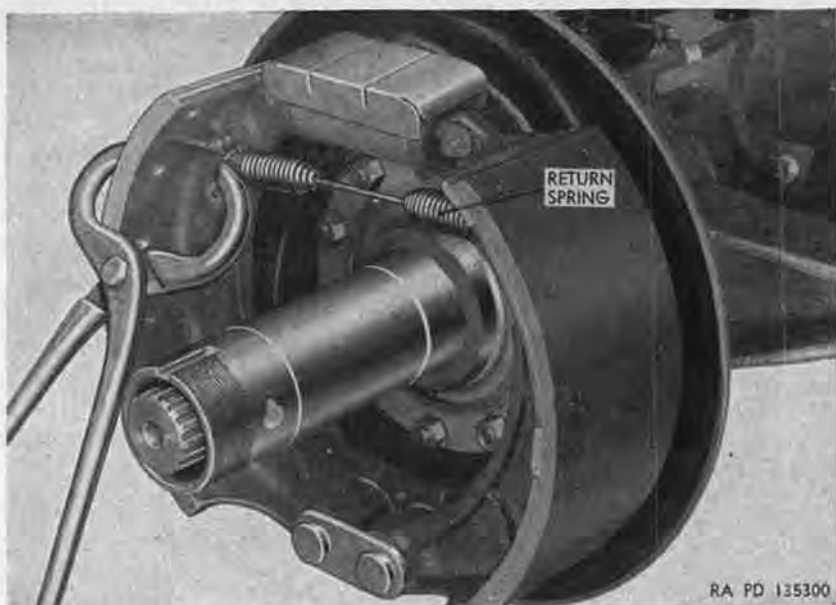

Figure 245. Removing brake shoe return spring.
- (4) Unhook return spring (fig. 245) from one of brake shoes.
- (5) Remove two wheel cylinder cap screws (fig. 240) and lockwashers from back side of backing plate assembly, and remove wheel cylinder (fig. 245) with cover from front side of backing plate.
- (1) Position wheel cylinder (fig. 245) with cover on front side of backing plate assembly, install two wheel cylinder cap screws (fig. 240) with lockwashers in holes at back side of backing plate, and tighten cap screws.
- (2) Install return spring (fig. 245) between brake shoes.
- (1) Remove wheel and tire assembly (par. 241).
- (2) Remove hub and drum assembly (par. 242).
- (3) Install clamp over ends of wheel cylinder (fig. 245) to hold wheel-cylinder pistons in position.
- (4) Unhook return spring (fig. 245) from both brake shoes.
- (4) Install return spring (fig. 245) between brake shoes, and remove clamp from ends of wheel cylinder.
- (5) Install hub and drum assembly (par. 242).
- (6) Bleed wheel cylinder (par. 221).
- (7) Adjust brakes, using major adjustment procedures (par. 220).
- (8) Install wheel and tire assembly (par. 241).